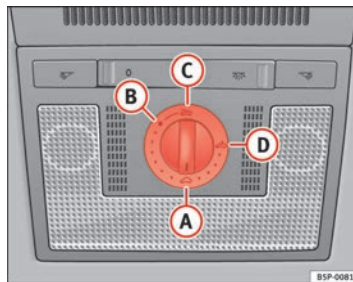

Fig. 68 Roof lining description: sliding/tilting sunroof rotary knob
- Turn the rotary button to position **A** ⇒ fig. 68 ⇒ .